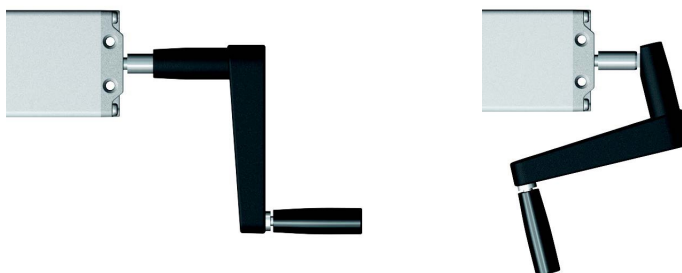

Fig. 7: Hydraulic Pump Handcrank, unfolded and folded
2. Pull the Crank outward, then rotate downward to fold the handle under the table (Fig. 7).